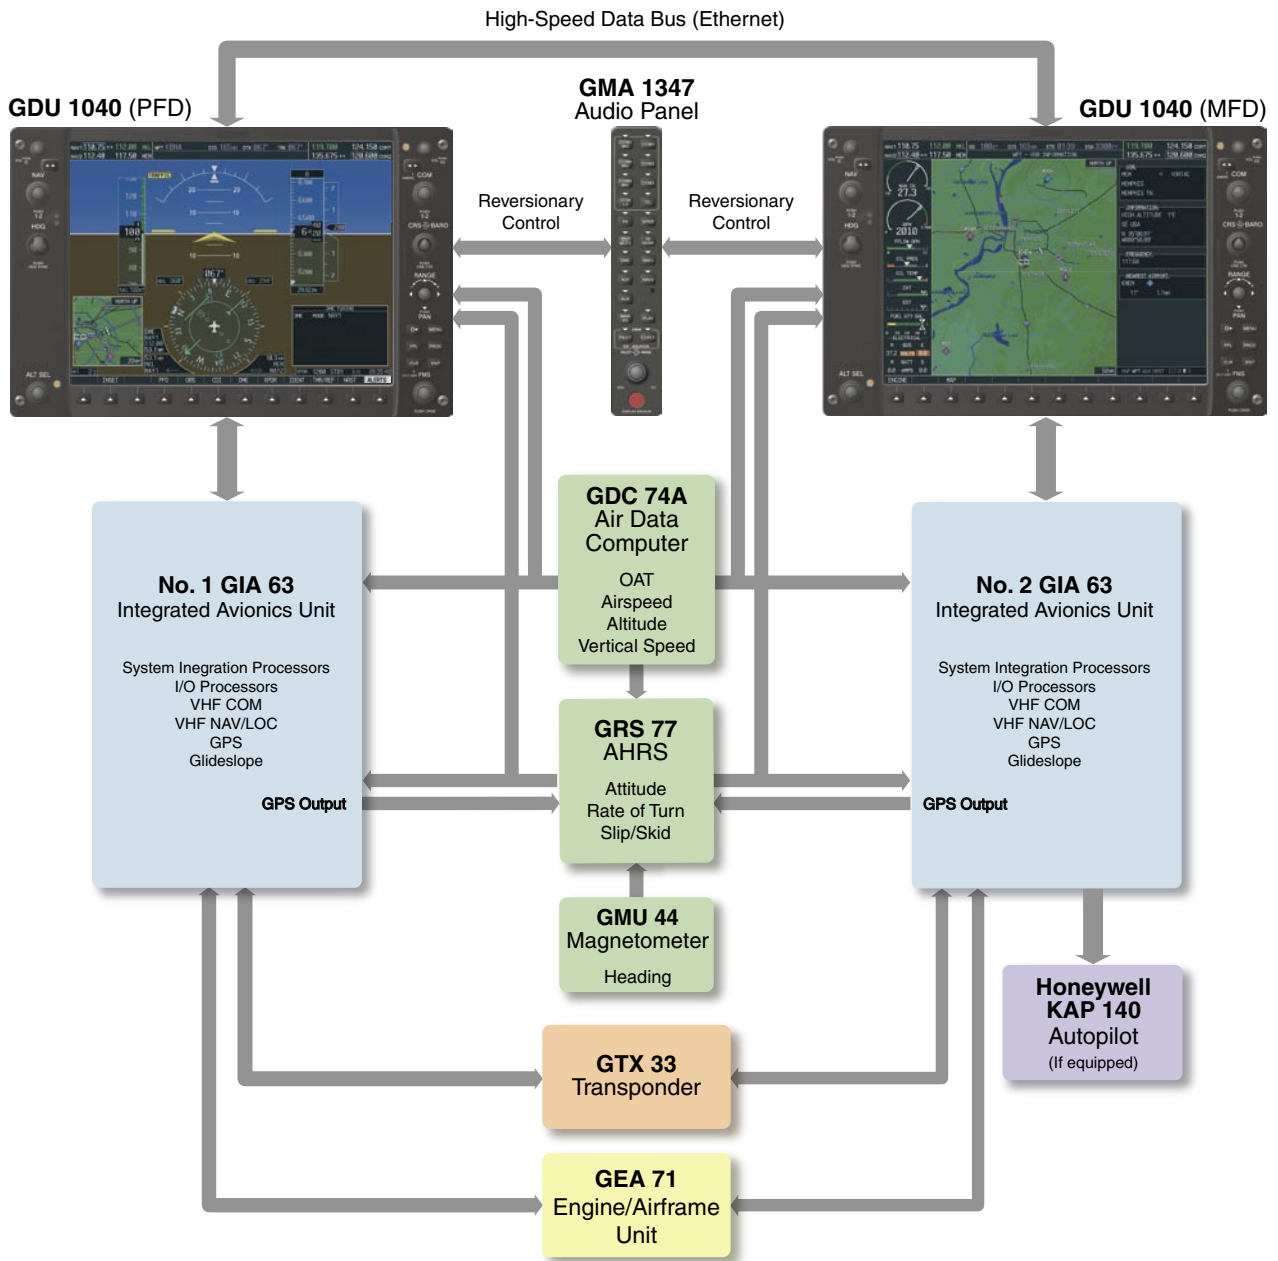
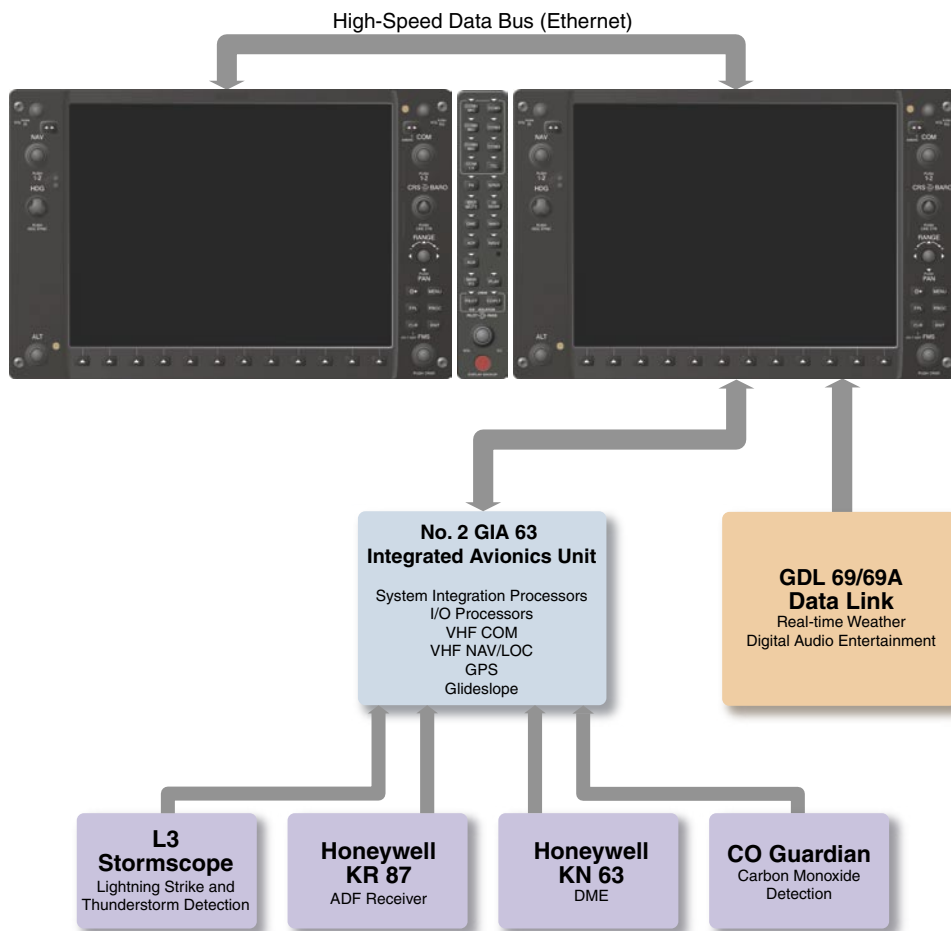

Figure 1-1 Basic G1000 System
Figure 1-2 G1000 Optional Interfaces
The LRUs are further described in the following section. All LRUs have a modular design, which greatly eases troubleshooting and maintenance of the G1000 system. A top-level G1000 block diagram is given in Figure 1-1. Additional or optional interfaces are depicted in Figure 1-2.
**NOTE:** For information on all optional equipment shown in Figure 1-2, please consult the applicable user's guide supplied with the optional equipment. This document assumes that the reader is already familiar with the operation of this additional equipment.
The PFD and MFD are connected together on a single Ethernet bus, allowing for high-speed communication between the two units. Each GIA 63 is connected to a single display, as shown in Figure 1-1. This allows the units to share information, thus enabling true system integration.
If a display fails, the GIA 63-GDU 1040 Ethernet interface is cut off. Thus, the GIA can no longer communicate with the remaining display (refer to Figure 1-1), and the NAV and COM functions provided to the failed display by the GIA are flagged as invalid on the remaining display, as a result. The system reverts to using backup paths for the GRS 77, GDC 74A, GEA 71 and GTX 33, as required. The change to backup paths is completely automated for all LRUs, and no pilot action is required.